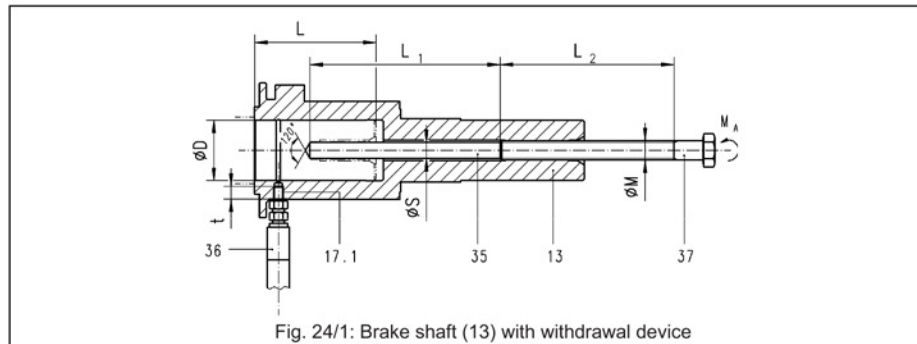

Fig. 24/1: Brake shaft (13) with withdrawal device
Proceed with extreme caution and follow all relevant safety instructions when removing the brake shaft (13). The brake shaft (13) must be removed by means of an oil pressure system (see Fig. 24/1).
1. To this end, a withdrawal device consisting of a forcing screw (37), a forcing pin (35) and an oil injector or oil pump (36) must be used. Remove the screw plug (17) and screw the oil injector or oil pump (36) connection into the oil inlet bore (17.1).
2. Insert the forcing pin (35) on the front face of the brake shaft (13) up to the limit stop and slightly tighten it by means of the forcing screw (37).
4. Proceed to increase the pressure to the maximum oil pressure p_{max} . After the maximum pressure has been reached, screw in the forcing screw (37) smoothly and evenly so that the brake shaft (13) can be pulled off the motor shaft. While removing the brake shaft, the tangential torque arm should be applied to the square socket (size 13, 19, 24 brakes) or to the external teeth of the brake shaft (13) (size 29 brakes). The technical specifications applicable to the brake shaft (13) removal are given in Table 25/1.
Key to Fig. 24/1: